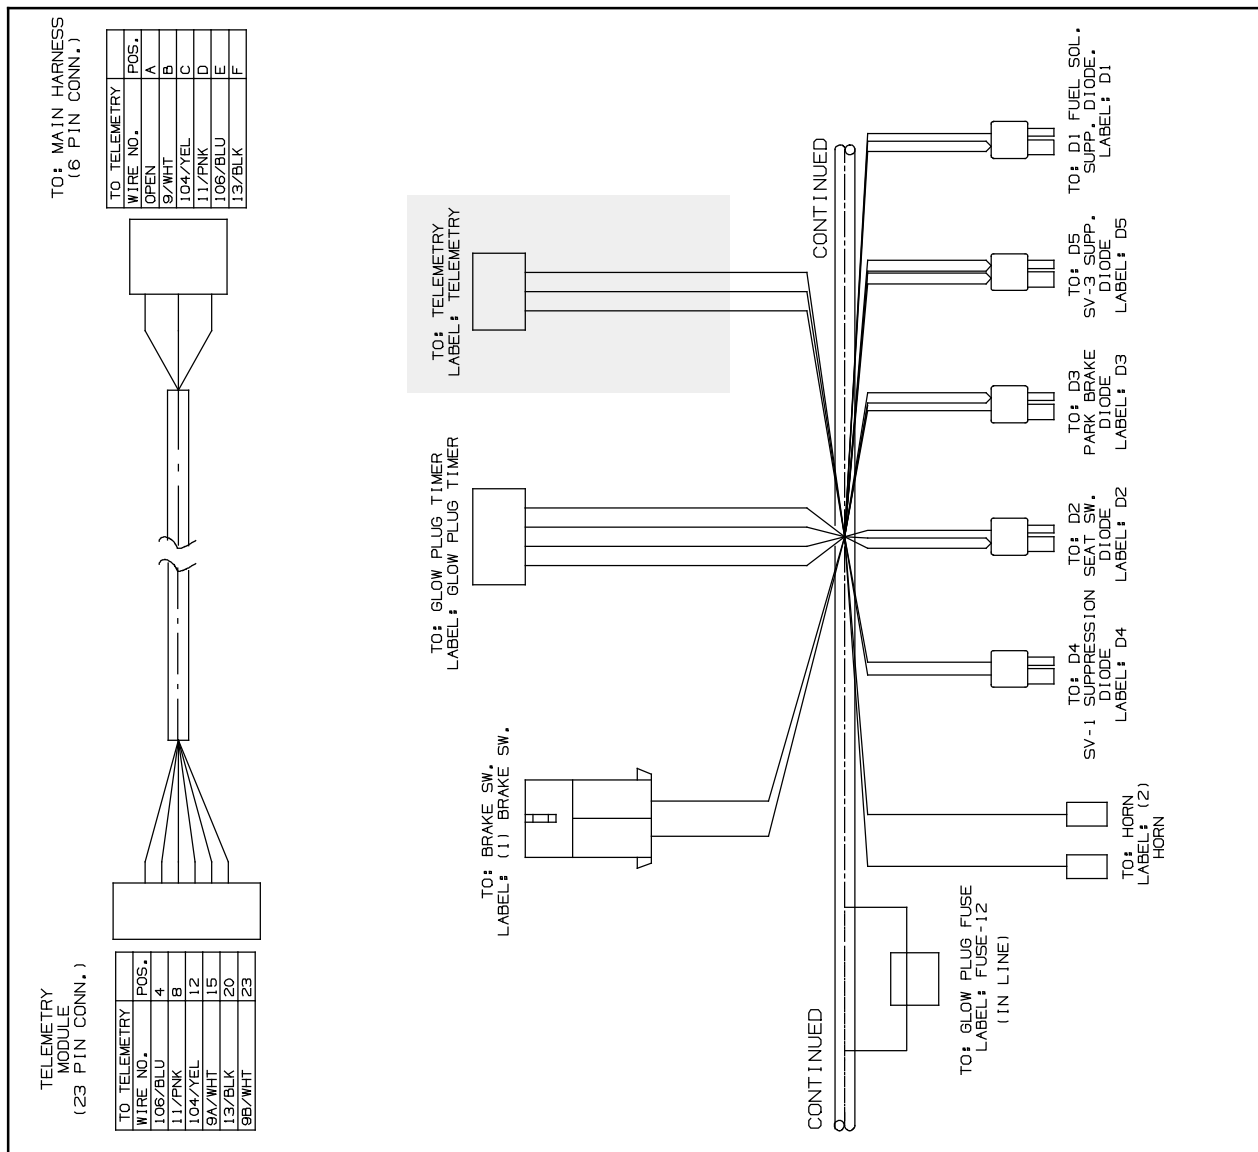

FIG. 4
- Connect the antenna (3) cable to the telemetry module (1). (Fig. 2 / Fig. 4)
- Connect the telemetry harness (8) to the telemetry module (1). (Fig. 2 / Fig. 4)
- Route the telemetry harness (8) into the engine compartment and connect the telemetry harness to the main wire harness. (Fig. 2 / Fig. 4)